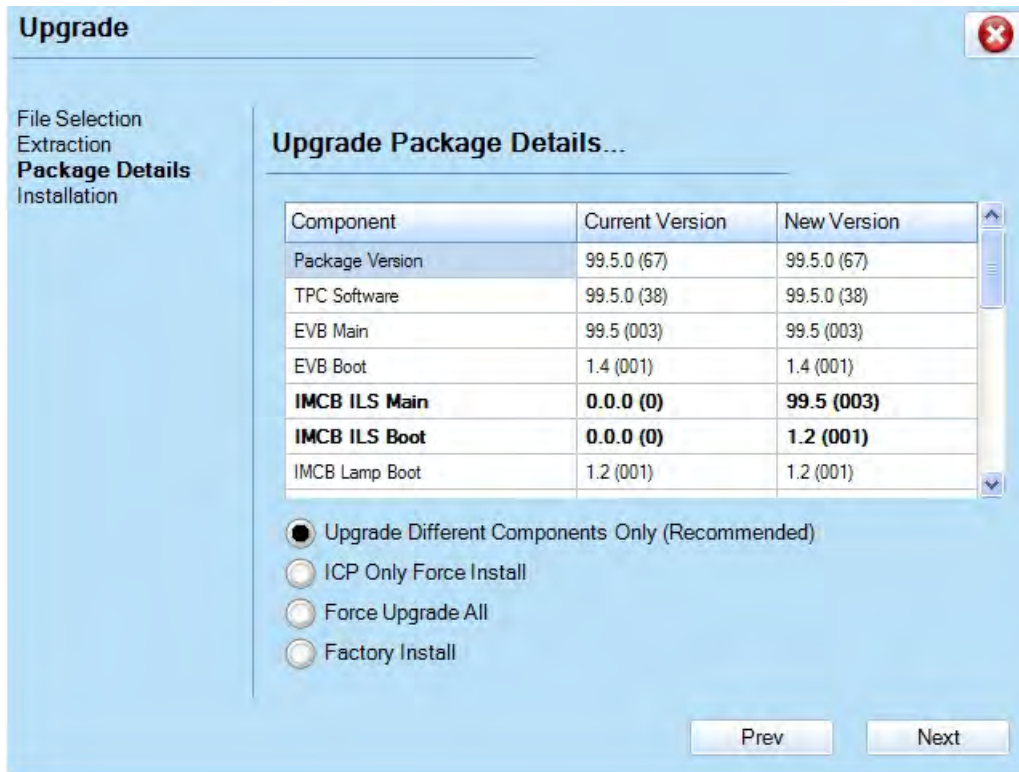

Figure 3-17 Upgrade: Package Details Window
3. The **Package Details** window shows the versions of all components installed in the projector. (**Figure 3-17**). Select the type of install to perform: **Upgrade Different Packages Only**, **Force Upgrade All**, or **Factory Defaults Install** and tap the **Next** button to advance to the **Installation** window.